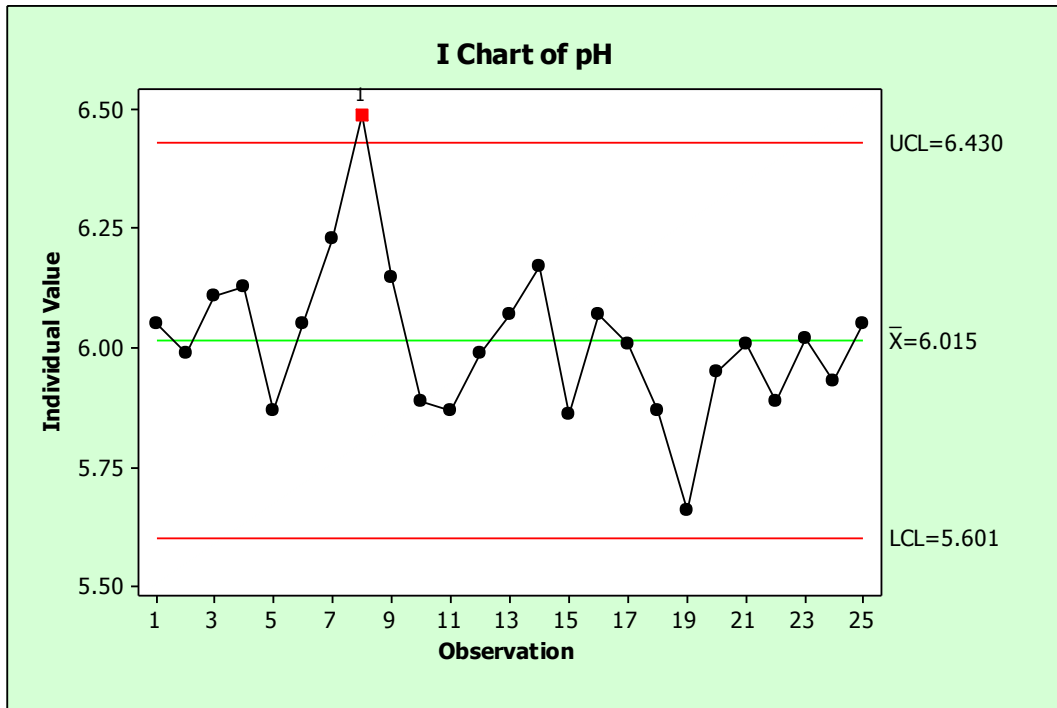

Figure 22
A typical control chart is shown in Figure 22, which is a graphical display of a quality characteristic that has been measured or computed from a sample versus the sample number or time. Often, the samples are selected at periodic intervals such as every hour. The chart contains a center-line (CL) that represents the average value of the quality characteristic corresponding to the in-control state. (That is, only chance causes are present.) Two other horizontal lines, called the upper control limit (UCL) and the lower control limit (LCL) are also shown on the chart.